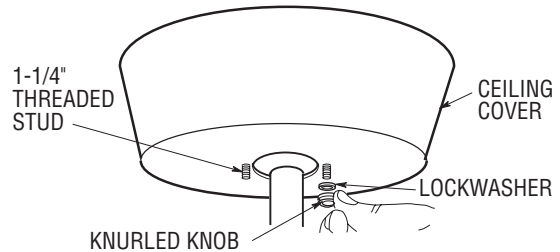

Figure 17
- 5. Screw the two 1-1/4" threaded studs (supplied) into the tapped holes in the hanger bracket (Figure 17).
- 6. Lift the ceiling cover up to the threaded studs and turn until studs protrude through the holes in the ceiling cover (Figure 17).
- 7. Secure the ceiling cover in place by sliding lockwashers (supplied) over the threaded studs and installing the two knurled knobs (supplied). (Figure 17.) Tighten the knurled knobs securely until the ceiling cover fits snugly against the ceiling and the hole in the ceiling cover is clear of the downrod. Your fan is now wired to be turned on and off from the fan switch.